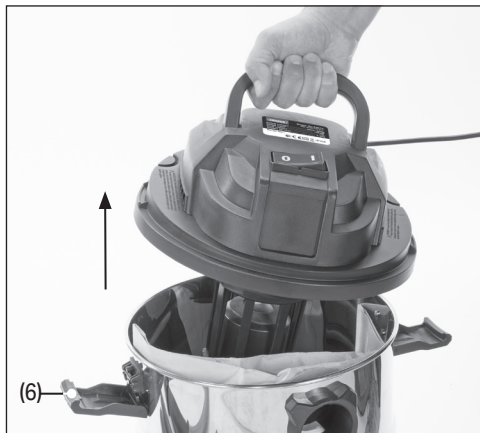
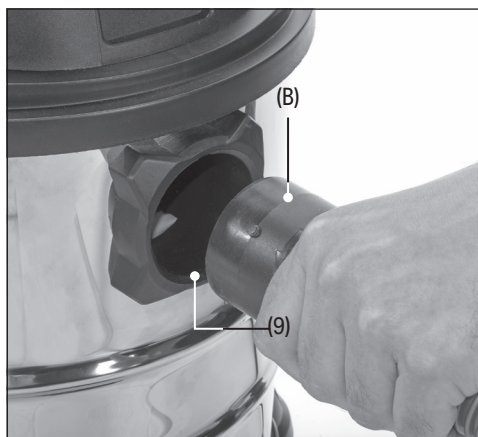

Fig. 2
Fig. 3
1. Release the retaining clips (6) and lift off the motor housing. (Fig. 2).
- **Cloth filter (G)** and paper dustbag (I) for dry vacuuming (refer to **Section 8.1**).
- **Foam filter (F)** for wet vacuuming only (refer to **Section 8.2**).
3. Refit the motor housing (4) and secure using the two retaining clips (6).
4. Push the flexible hose (B) into the port (9), align the notch with the arrow on the port housing. Then turn anticlockwise to lock in place. (Fig. 3).